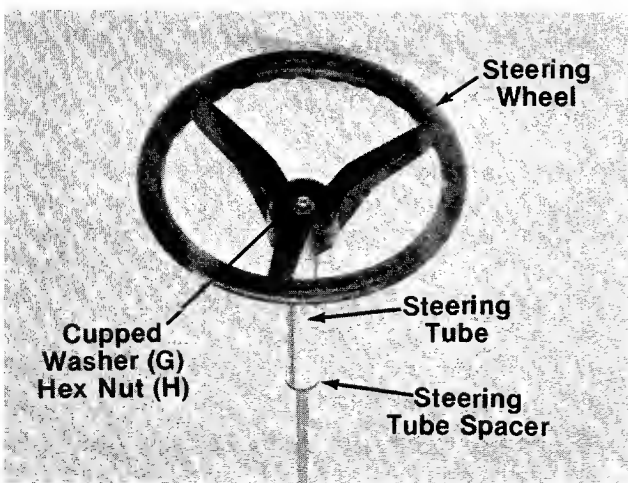

FIGURE 5.
4. With the **steering shaft** in the normal upright position (end with flattened portions up), slide the **steering tube spacer** and **steering tube** down over the **shaft**. See figure 5.
5. Place **steering wheel (U)** over the end of the **steering shaft**, lining up the flattened portions of the steering shaft with the flattened portions of the steering wheel. Make certain steering wheel is seated over the end of the steering tube.
6. Place **cupped washer (G)** over the **steering shaft**, with the cupped side of the washer against the steering wheel. Secure with **hex nut (H)** (5/16" I.D.). See figure 5. Tighten securely.